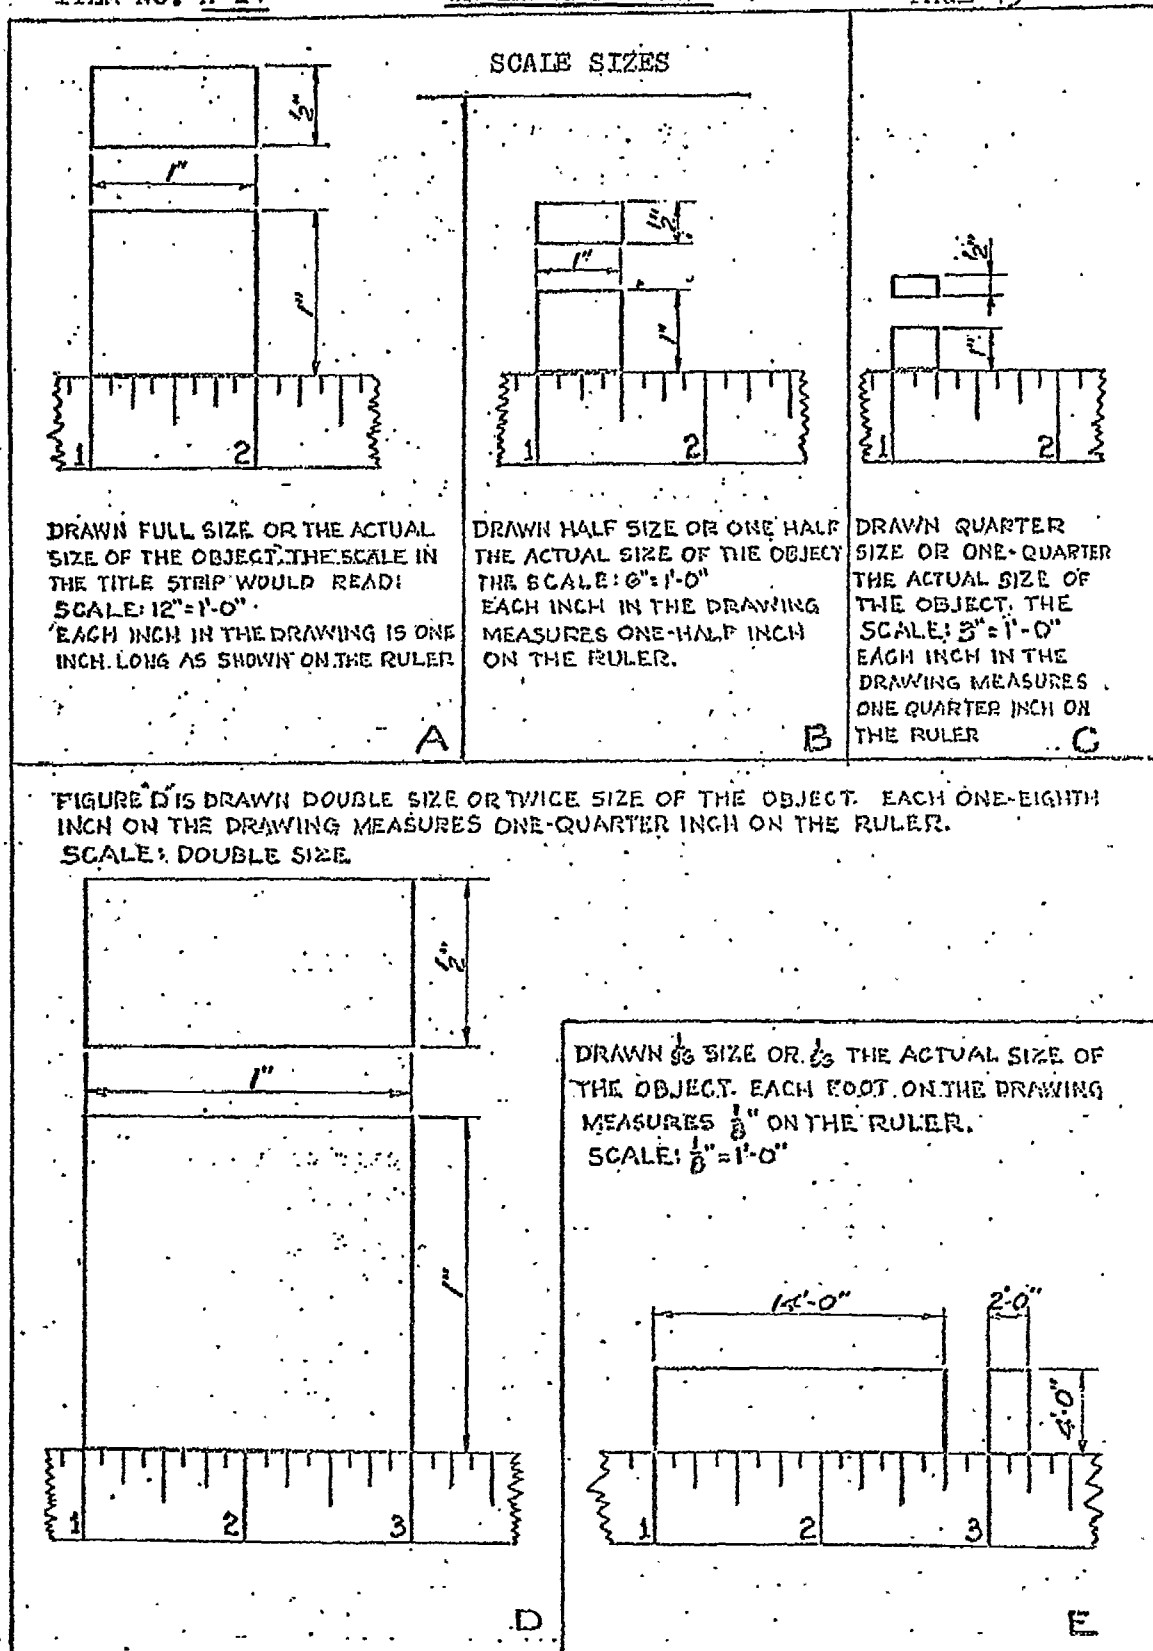

FIGURE 3
(8) Use of Scales on Drawings: In most instances, small objects are drawn full size by an engineer or draftsman. However, some objects are so large that it presents a problem to the draftsman who must reduce the size to where it can be conveniently drawn on available sizes of drawing paper. Where the object is extremely small, the size may be increased in drawing. The reduction or increase of the drawing size in accurate proportion to the actual size is the device used by the draftsman to provide a readable print and is known as 'drawing to scale'. (See Figure 3)